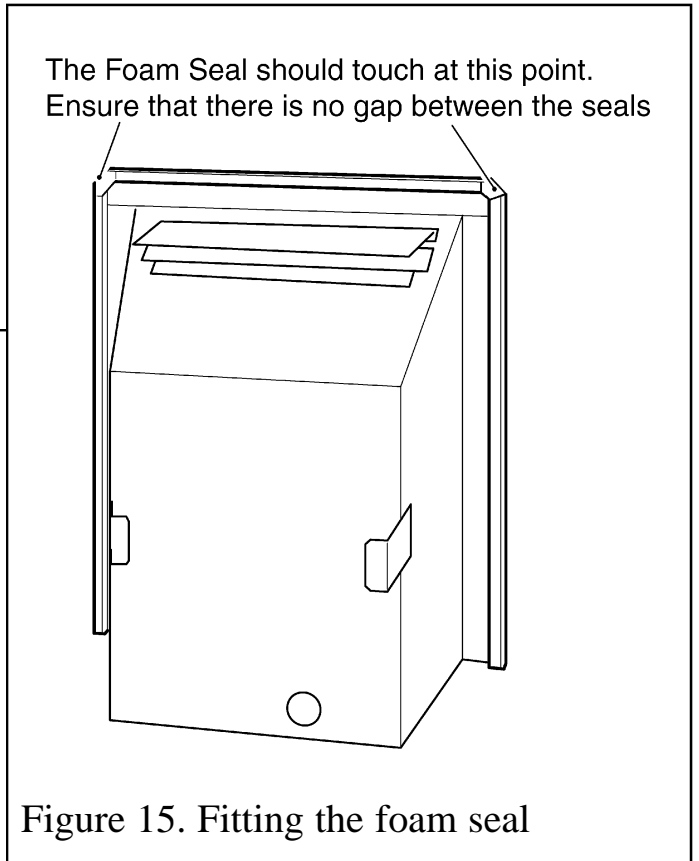

Figure 15. Fitting the foam seal
8. There is a length of self adhesive foam seal supplied with the fire. This will need to be fitted to the outer rear edges of the side and top flanges of the hotbox. Be careful not to stretch the seal when measuring. Remove the protective backing from the foam seal and fit this to the flanges (See figure 15). Ensure that there is no gap between the foam seals where they meet at the top flange (See figure 15)